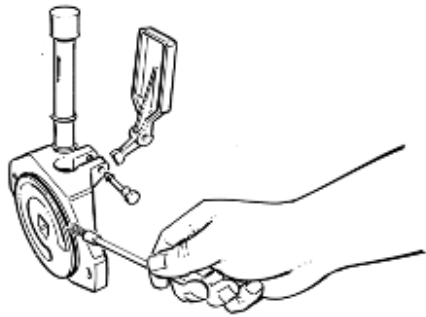

Fig. 52
- Carefully lubricate the sealing gasket of the front flange (Fig. 52).